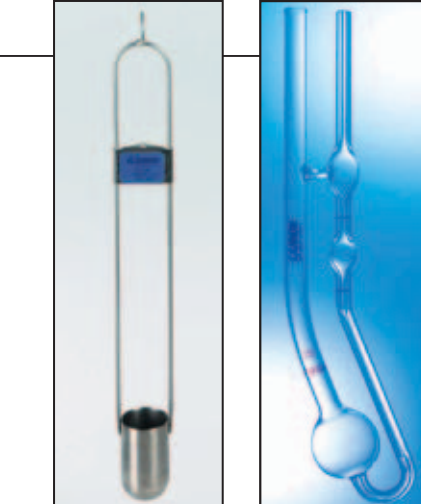

FIGURE 1. (top left)
measure how much time it would take to drain the ink (Figure 1). The cups were relatively inexpensive and anyone working the press could easily learn how to make the measurement. This became one of the earliest quality control (QC) tests that checked systematically for viscosity in a quantifiable way. But the cup method could not always discriminate successfully between inks that proved acceptable and those that were marginal or outright poor performers.